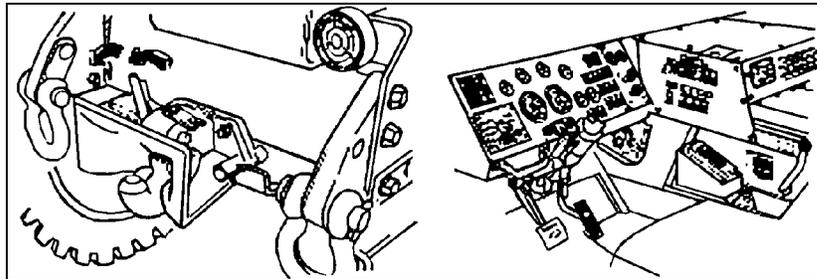

Figure 3-63. Locking Pin and Coupler
- e. Lock rotation locking pin on coupler (see Figure 3-63).